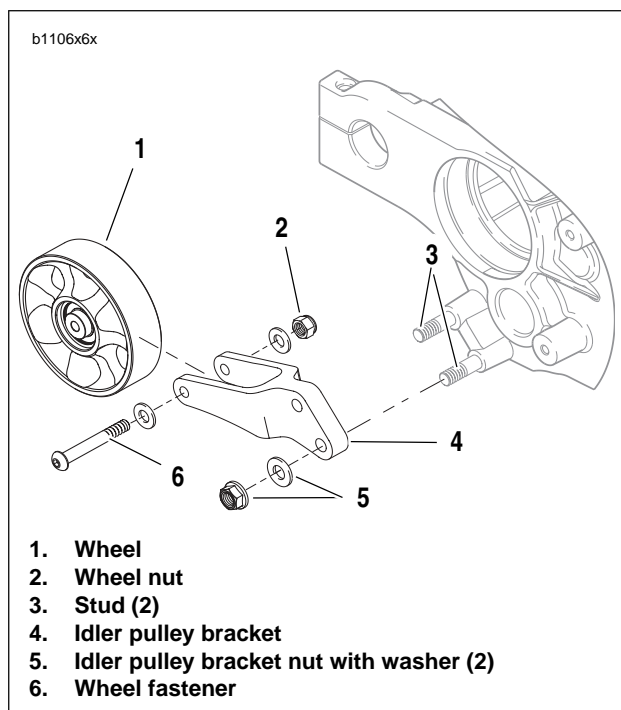

Figure 6-88. Idler Pulley Assembly
4. See Figure 6-88. Remove both bracket nuts with washers (5) attaching idler pulley (4) to studs (3).
6. Inspect pulley by spinning wheel (1) and checking for excessive wheel bearing wear.
7. If pulley wheel needs replacement, remove fastener (6) and nut (3) from idler pulley bracket (2) and discard. Replace with **new** pulley wheel (1).
11. See Figure 6-88. Slide idler pulley assembly on to studs (4), install nuts and washers (5) and tighten to 33-35 ft-lbs (44.74-47.45 Nm).